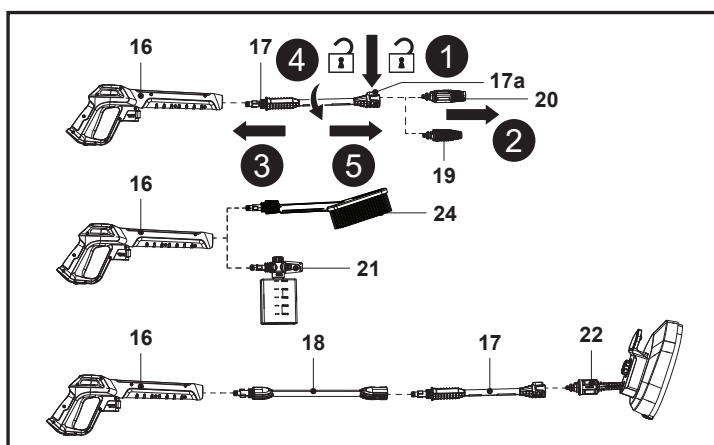

Fig. 6
6. To disconnect the nozzle, press the lock button (17a) and keep it in place, then pull the assembled nozzle out (Fig. 6, steps 1, 2). Reinstall a required nozzle.
7. To disconnect the extension lance (17), push and turn it counterclockwise to remove it (Fig. 6, steps 3, 4, 5).
8. To disconnect the detergent bottle nozzle (21), wash brush (24) or the extension pole (18) from spray gun (16), push and turn it counterclockwise to remove it. Reinstall a required spray gun accessory.